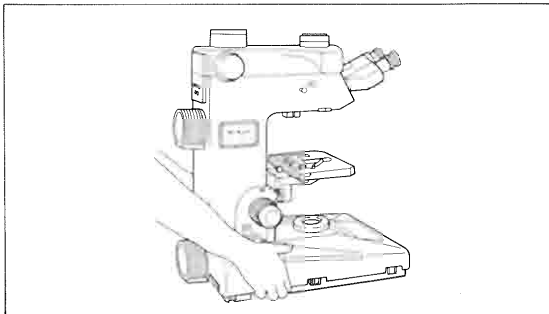

Fig. 1
- ① Handle the microscope gently, taking care to avoid sharp impacts.
- ② Remove the lamphouse before carrying the microscope, and grip only the indicated handholds of the microscope base. (Fig. 1)